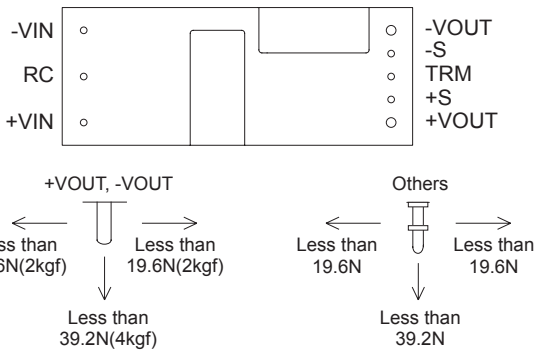
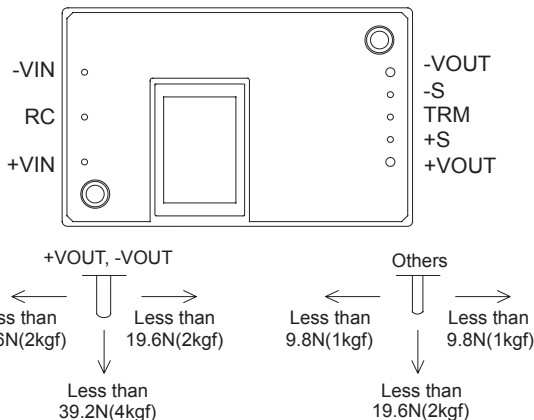

Fig. 6.2 Stress onto Pins (CQHS250)
Fig. 6.3 Stress onto Pins (CQHS300/CQHS350)
- Applying excessive stress to the input or output pins of the power module may damage internal connections. Avoid applying stress in excess of that shown in Fig. 6.2 and Fig.6.3.